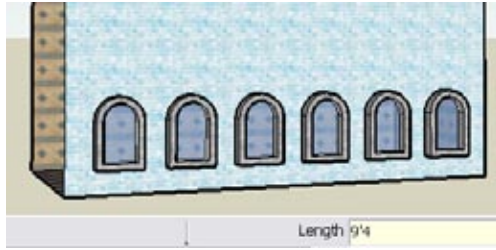

Figure 1-9
- Keep trying out new numbers until your spacing looks right. As shown in Figure 1-9, I settled on spacing of 9' 4", which can be entered like this: 9'4. (The inch symbol is not needed because that is the default unit.)